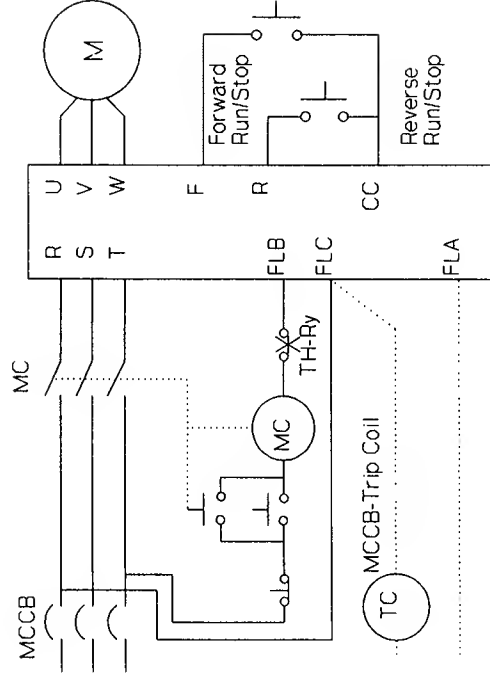

Figure 5.2 Simplified Power and Control Wiring
2. Use shielded cable on control circuits. See Figure 5.2.